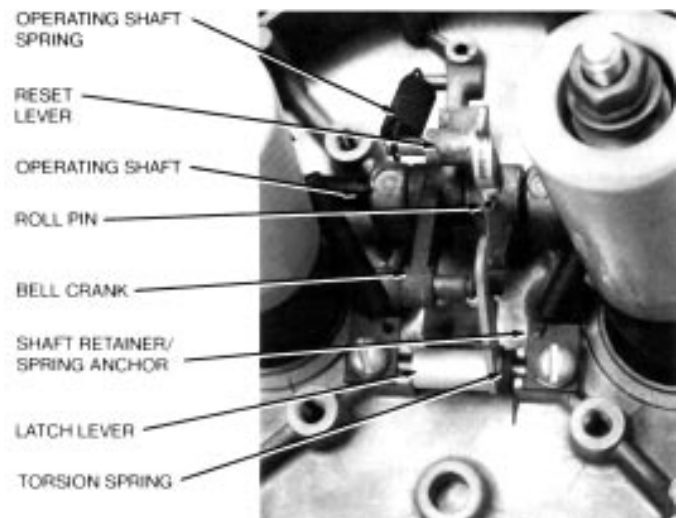

Figure 21.
4. With a hammer and punch, drive out the roll pin that secures the reset lever to the operating shaft (Figure 21).
6. Install new parts as required. Be sure roll pin that fixes reset lever to operating shaft is driven in until 3/16-inch of pin projects as shown in Figure 21.